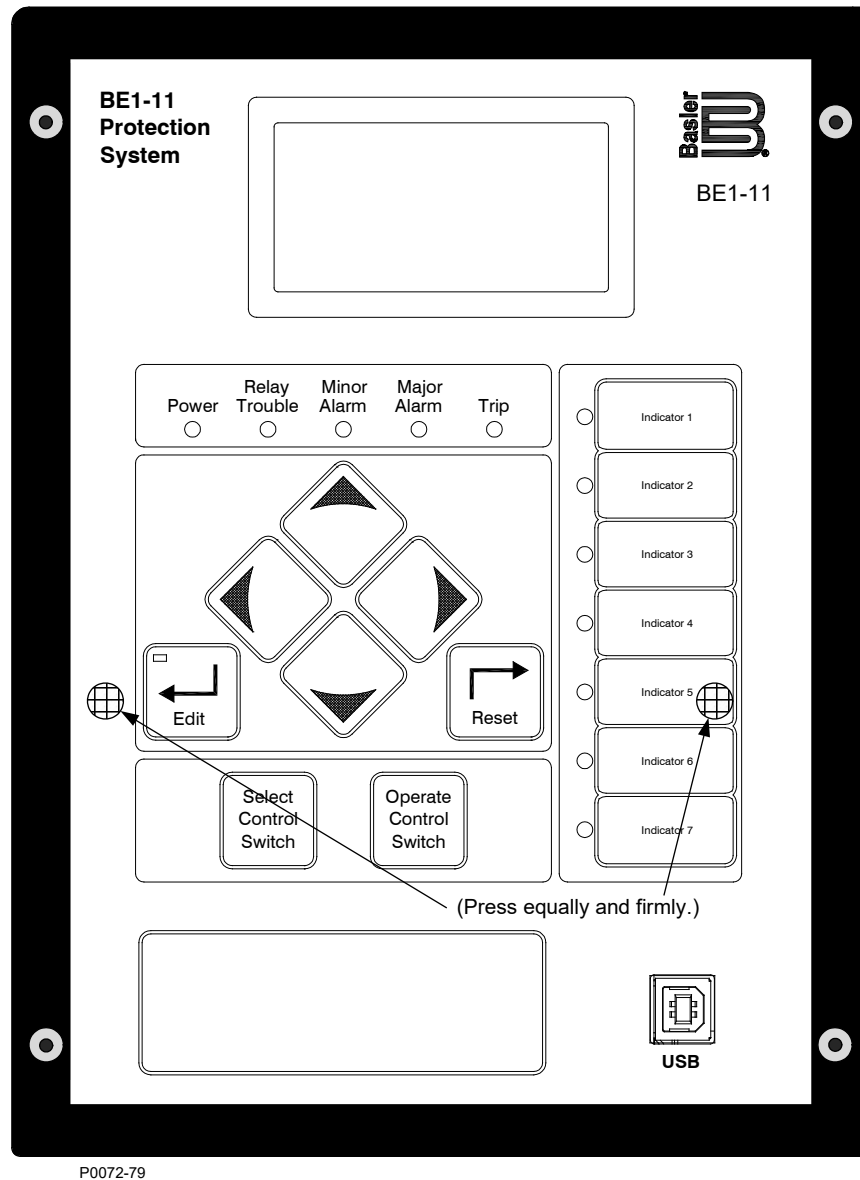

Figure 48-4. Re-Attaching the Front Cover
- Step 5: Reattach the front cover by pressing equally and firmly on both sides as shown in Figure 48-4. Using a 7/64" hex tool, tighten the front cover screws to 10 in-lbs (1.12 N•m).